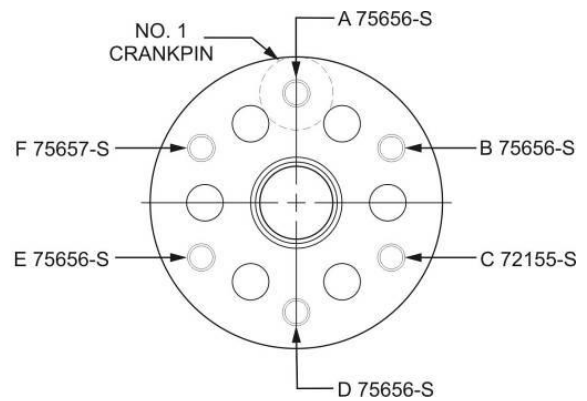

Figure 2
Figure 2 and the information below identify the correct propeller bushing part numbers and locations for the installation of propeller flange bushings on the IO-540-AB1A5 engine model.
3. Install the correct propeller flange bushings with the correct part number (Figure 2) in the corresponding locations.